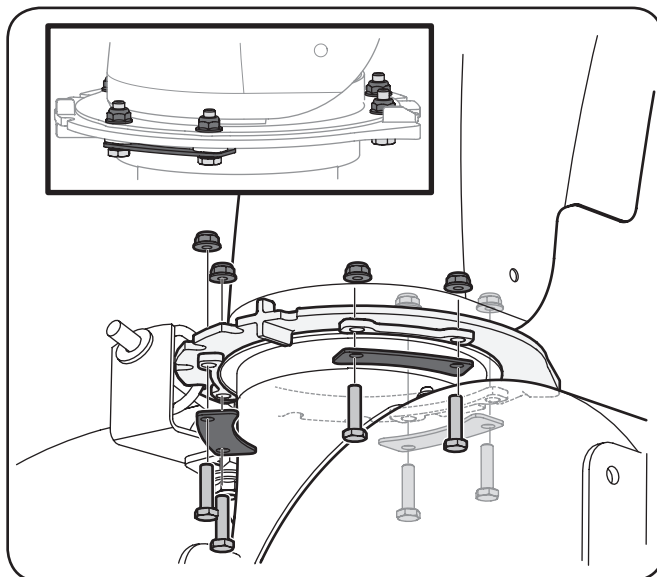

Figure 3-17
4. Using two $\frac{7}{16}$ " wrenches, secure the chute assembly to the chute ring with three flange keepers, six hex screws and flange nuts. Figure 3-17.